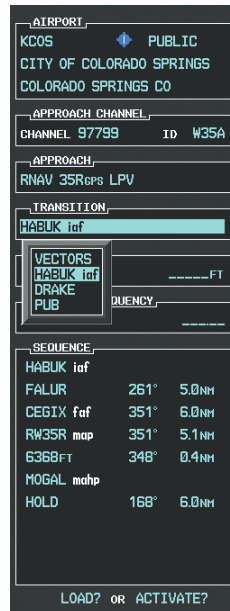

Figure 5-125 List of Available Transitions
e) Press the **ENT** Key. A list of available transitions for the selected approach is displayed as in Figure 5-125.